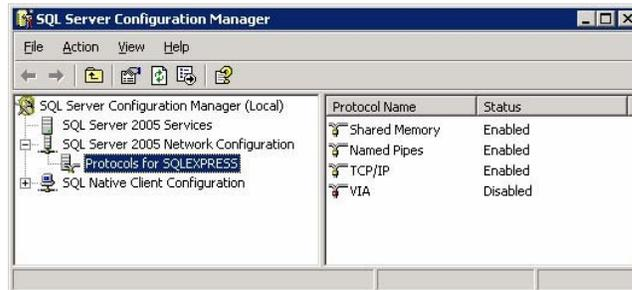

Figure 77
- Click Protocols for SQLEXPRESS (see Figure 77 on page 48).